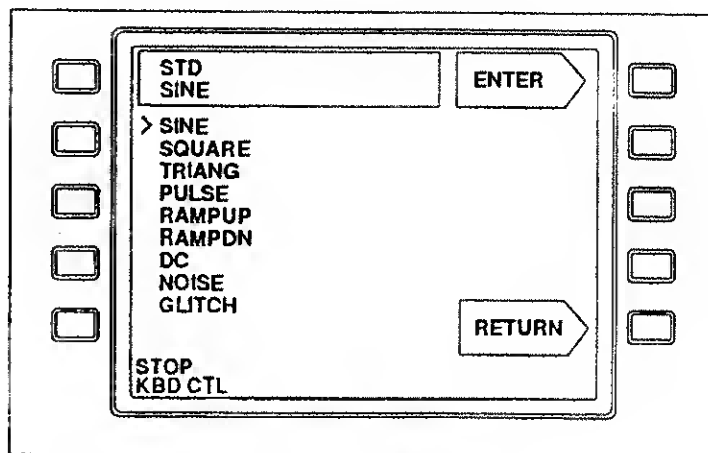

Figure 3-11. STANDARD WAVE Display
- (1) Press WAVE.
- (2) Press STANDARD WAVE. The submenu in Figure 3-11 should appear on the screen.
- (3) Using the Rotary Encoder or the Right/Left Move keys, move the cursor to the chosen wave type.
- (4) Press ENTER. The parameter set-up display should appear on the screen.